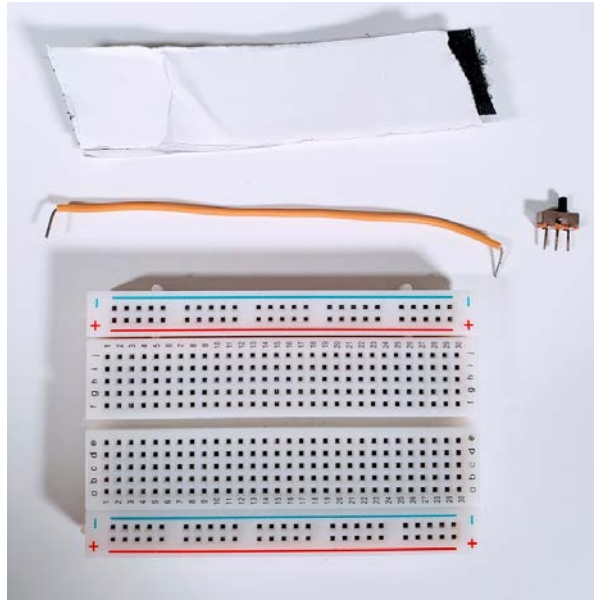

Figure 8.11 – Items needed to add a power switch
- Make sure you have the following equipment ready, as shown in *Figure 8.11*: a breadboard, some velcro, a mini breadboard-friendly SPDT switch, and one length of single-core 22 AWG wire: